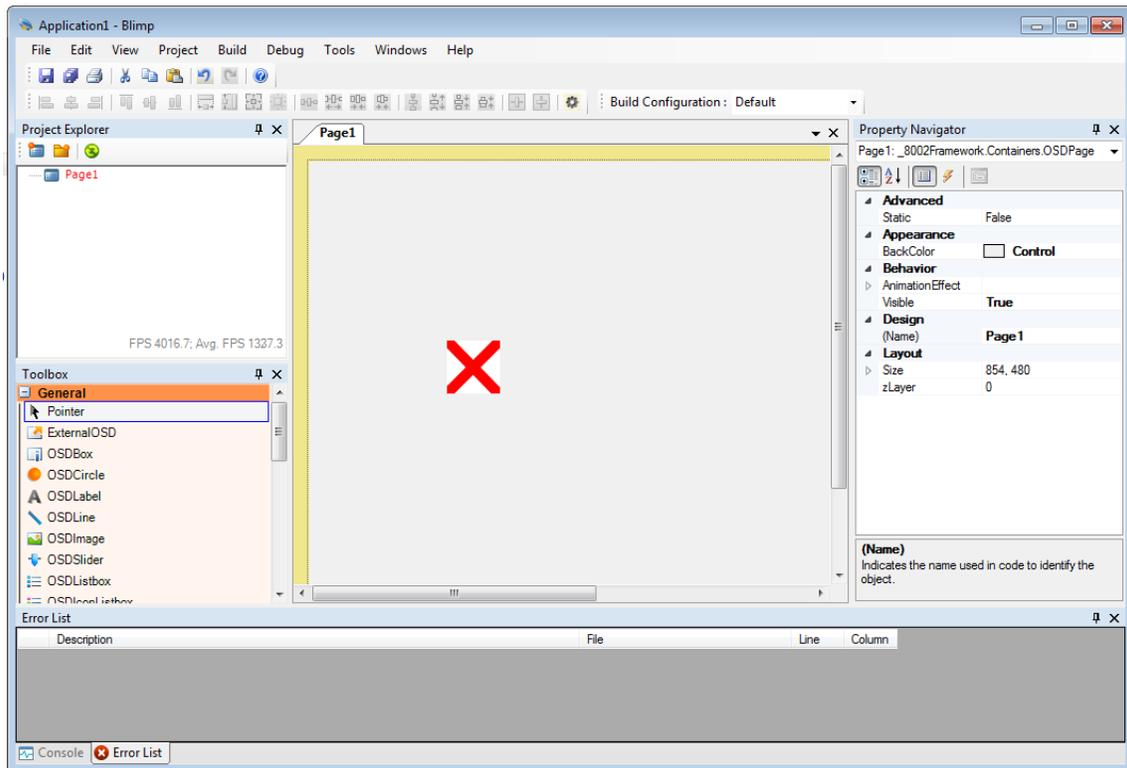

Figure 32: Opening Image Animation Editor
- Insert the OSDImage component into the Designer Canvas, as shown in Figure 32